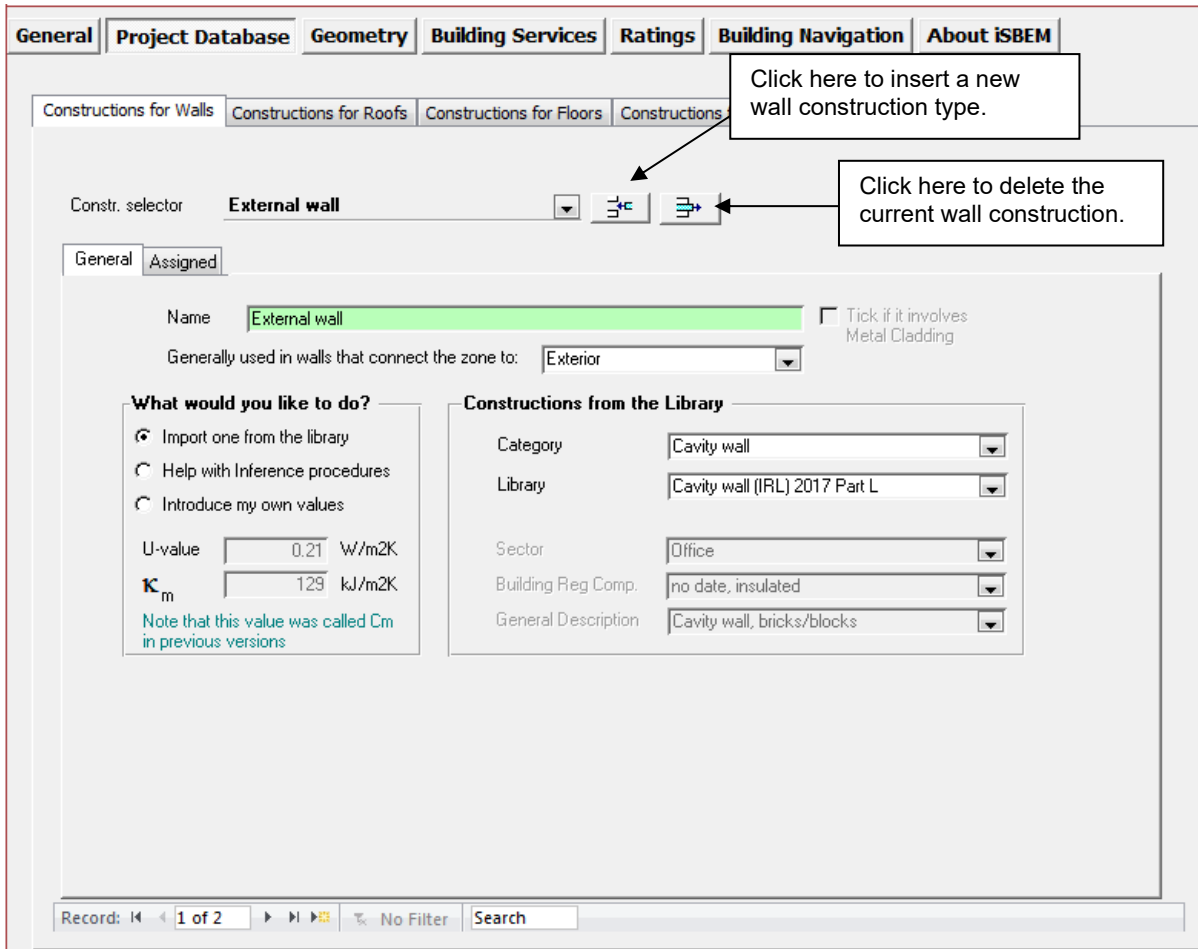

Figure 11: An external wall being defined in the Constructions for Walls tab
To insert a new type of construction, you must firstly create a new record by clicking on the “Create a new record” button shown in Figure 11. For each new construction, you need to enter the following information:
2. Generally used in walls/floors/roofs which connect zones to (for walls, roofs, and floors only) – Here you need to select from the options in the drop-down menu (see Figure 11), which include the options of: Exterior, Strongly ventilated space, Unconditioned adjoining space, Conditioned adjoining space, Underground, Same space, and Unconditioned adjoining space (UAS) that is partially conditioned by surrounding spaces. This sets the default or ‘global’ condition of the adjacent space which will appear when you assign this construction for a specific envelope element (see Section 3.4.4: Defining envelope, for details on how this global value is used). This parameter is only required for walls, roofs, and floors, and you can alter it for any individual envelope when defining its geometry.